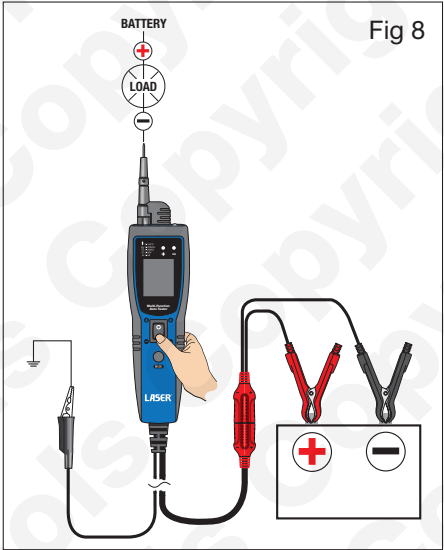

Fig 8
- 1. Refer to Figure 8: Connect the test probe to the negative of the test load and the auxiliary ground (earth) clip (K) to ground (earth) of the circuit. Press the power-probe supply switch (F) backward.